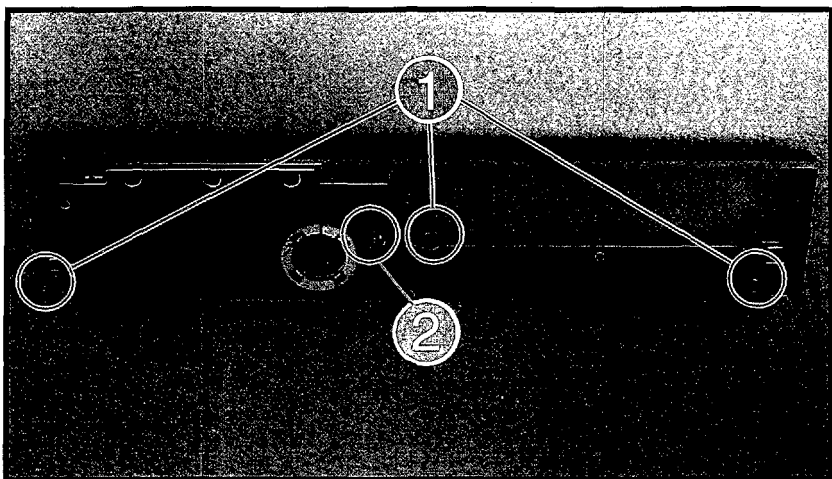

Figure 6-12 Control Panel RFI Shield (LaserJet 4P/4MP)
4. Remove the three self tapping RFI shield screws (Figure 6-12, callout 1) and one machine screw (callout 2).
5. The Control Panel PCA is located under the RFI shield. Remove its (3) self-tapping screws to replace the PCA.